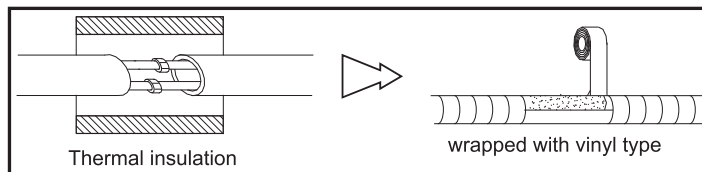
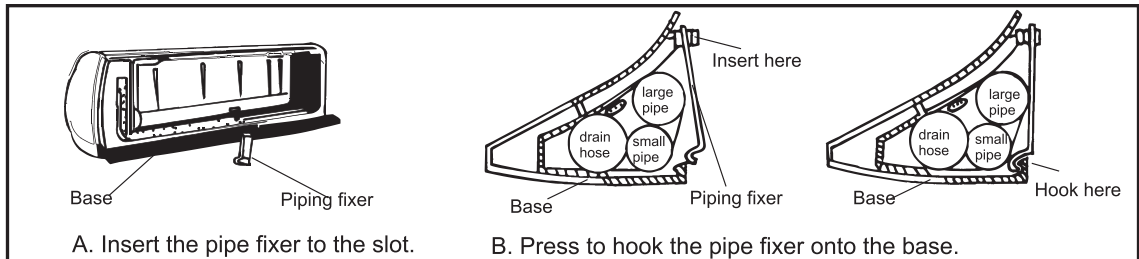

Fig. 13
Fig. 15
5) After connecting piping as required, install the drain hose. Then connect the power cords. After connecting, wrap the piping, cords and drain hose together with thermal insulation materials (Fig.13-Fig.15).